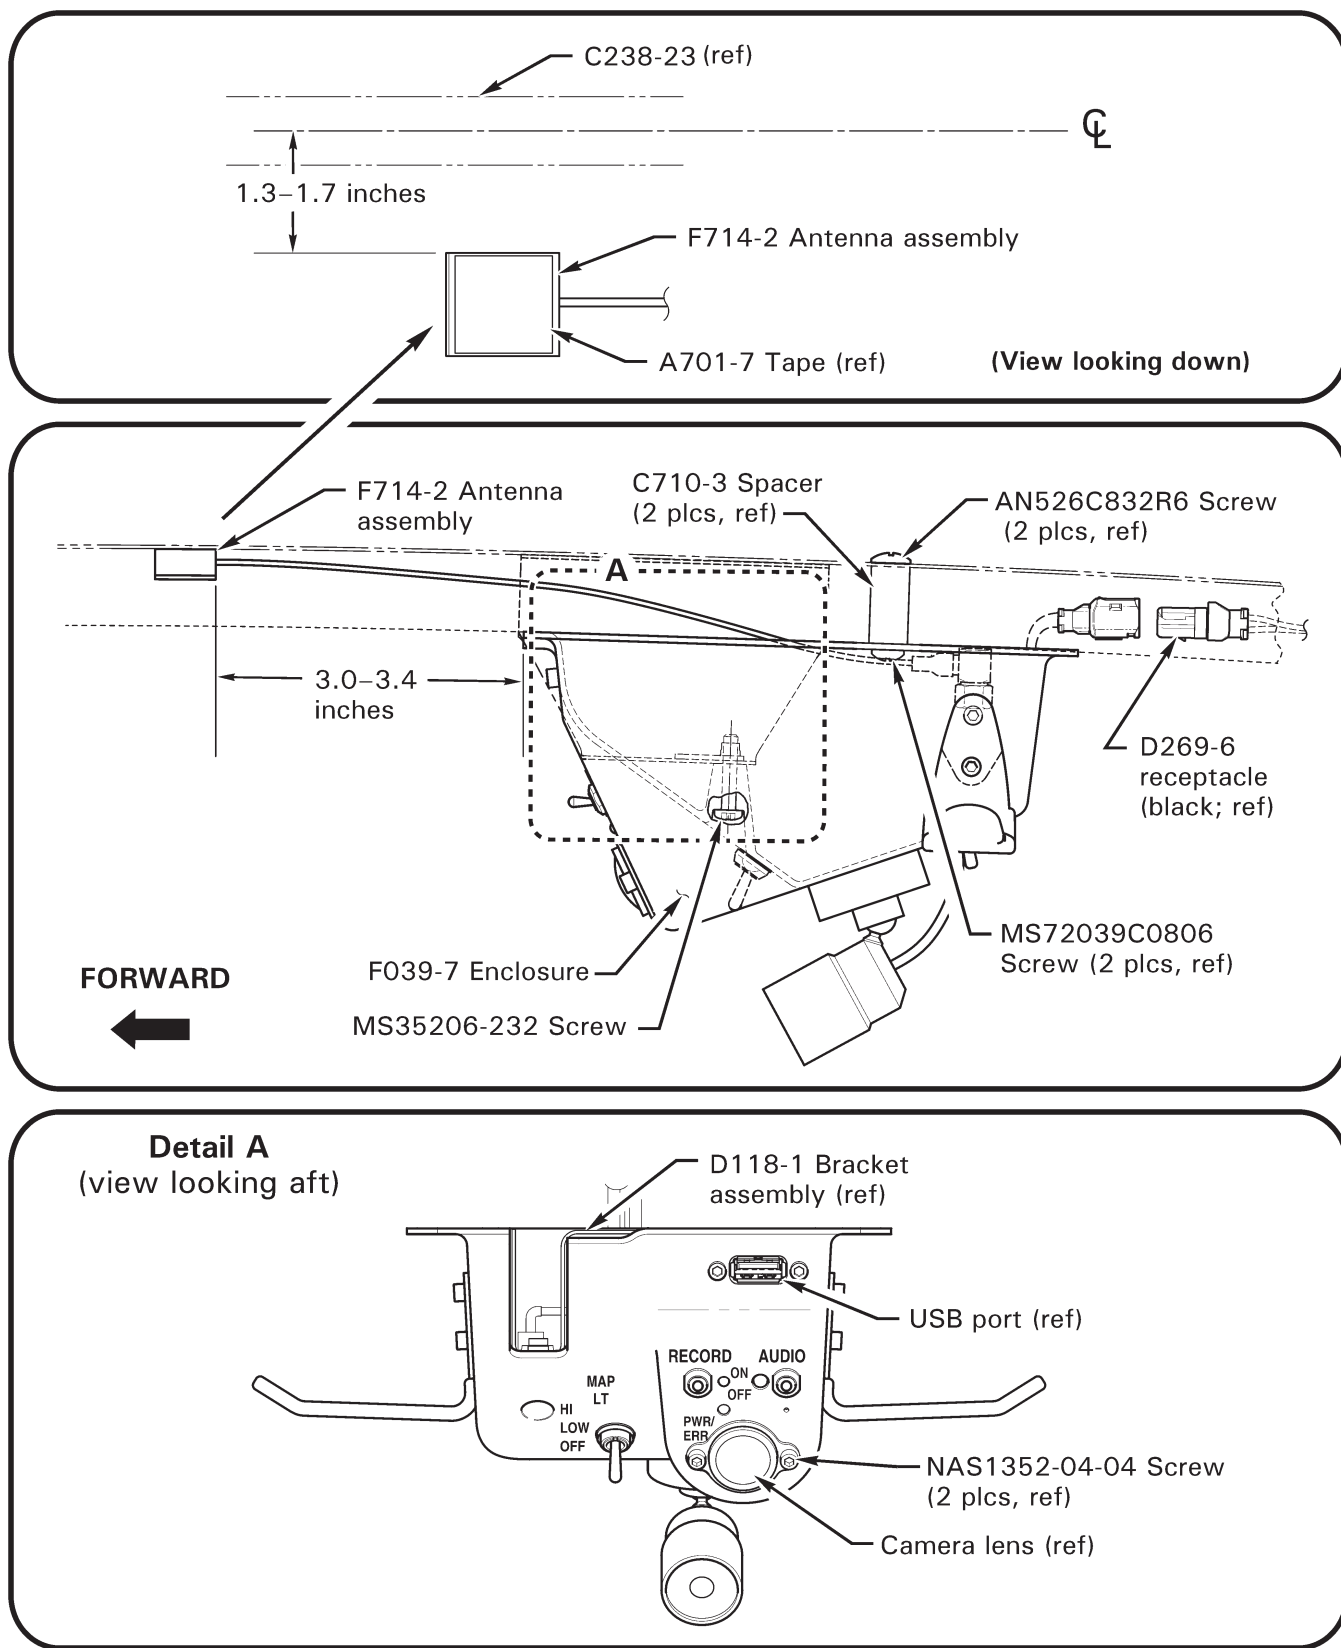
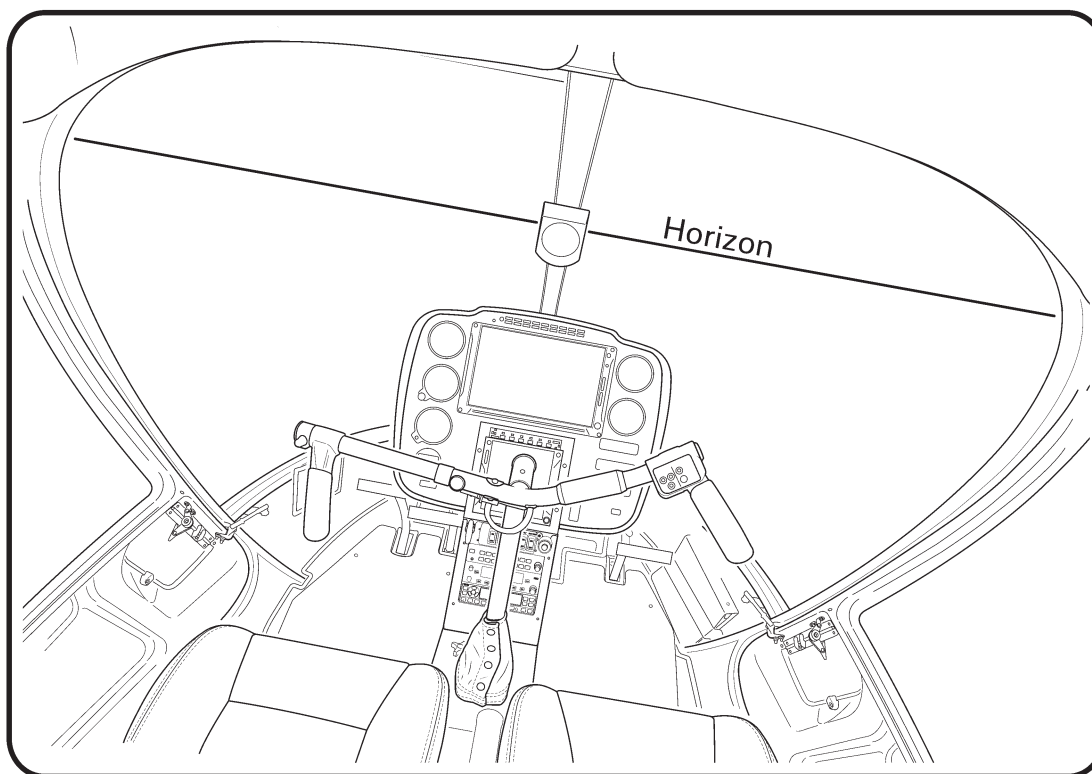

FIGURE 3 Enclosure and antenna installation
FIGURE 7 Camera view angle
7. Refer to Figure 3. Carefully separate headliner from roof only as necessary to access antenna installation location. Connect D269-6 receptacle to camera plug in F039-7 enclosure assembly. Connect F714-2 antenna assembly to fitting in enclosure assembly and route cable forward. Position antenna with metal side down, 3.0–3.4 inches forward from enclosure, with inboard edge of antenna 1.3-1.7 inches left of helicopter centerline. Remove backing from tape on antenna and press in place on roof.
8. As required, install headliner to roof using B270-8 adhesive, tucking antenna wire inside headliner. Install enclosure assembly to C710-3 spacers using (2) MS27039C0806 screws, and to D118-1 bracket assembly using MS35206-232 screw. Secure enclosure wires to existing wires using appropriately-sized ty-raps. Cinch ty-raps until snug without over-tightening, and trim tips flush with head.
- b. Refer to Figure 3. Insert F714-4 flash drive assembly to USB port of F039-7 enclosure. Toggle helicopter battery switch ON for minimum 30 seconds; video will record automatically. While video is recording, activate & route an audio source (such as ATIS) to copilot headset. Toggle helicopter battery switch OFF.
- d. If horizon slants to the right (as shown in Figure 7), adjust angle by loosening two NAS1352-04-04 screws holding lens (see Figure 3) and rotate lens counterclockwise while facing lens; if horizon slants to the left, rotate lens clockwise. Tighten screws. Repeat steps 2 & 3.